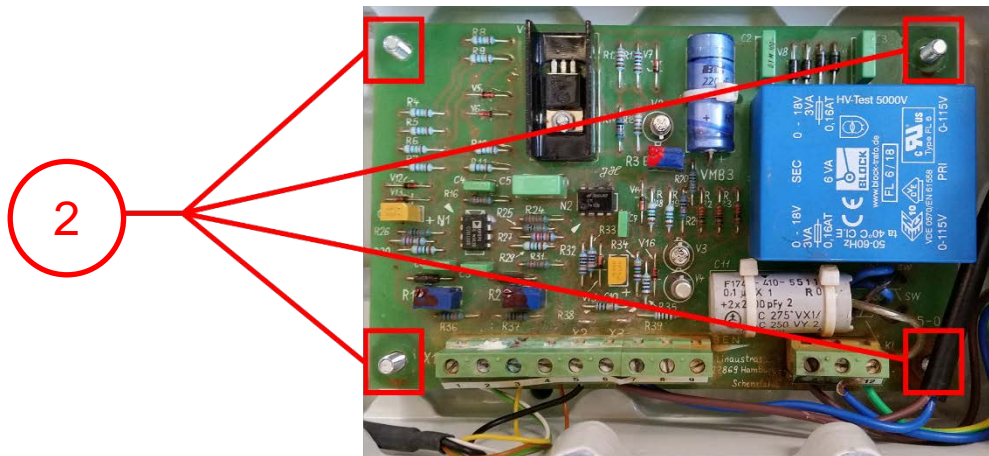

Figure 3
- Loosen the 4 mounting nuts (refer to figure 3, detail 2).